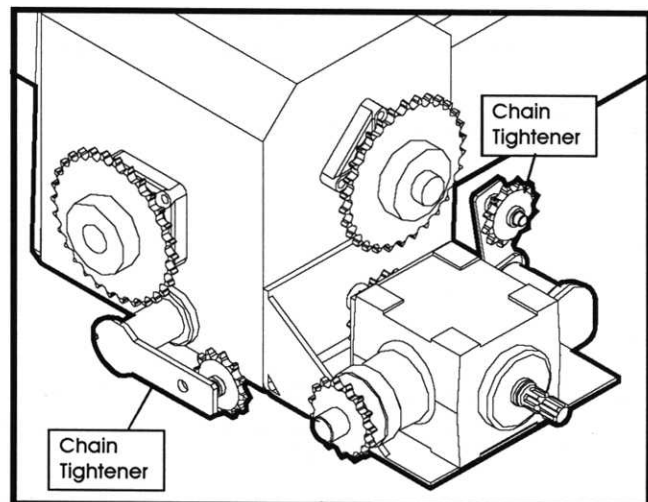

FIGURE 14
1. Refer to Figure 14. Remove chains from drive system by removing connector link.